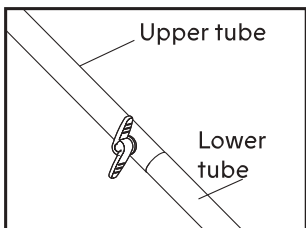

Fig. 1
1. Fit the upper and lower tubes together and tighten the joint-fixing knob (Fig. 1).